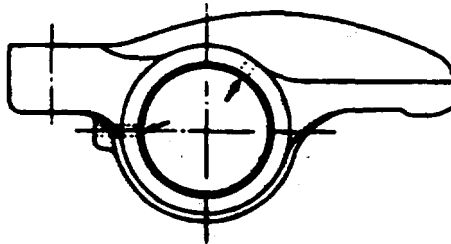

FIGURE 3-56. Rocker Arm Oil Ports, Location of
- e. Check that rocker arm oil ports (two) are free of obstructions. refer to FIGURE 3-56. Use compressed air if necessary to clean oil ports.